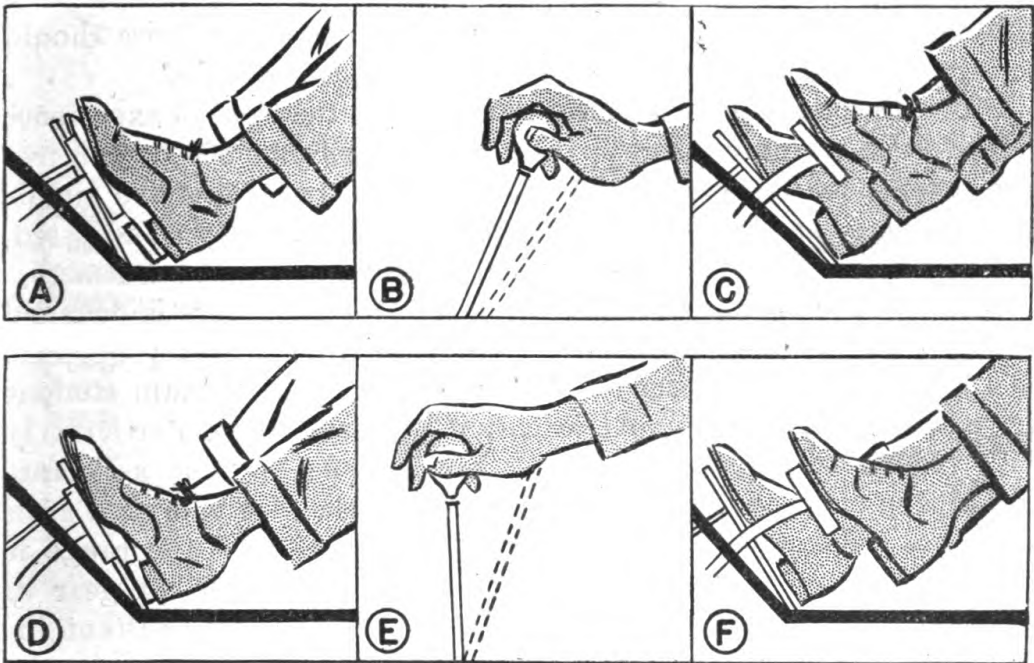

FIGURE 19.—How to double-clutch.
*c. Equipment and facilities.*—Sufficient number of vehicles to enable all students to get necessary amount of practice in available time. Driving field lay-out in accordance with figure 19. (Boundaries about which vehicles may maneuver should be set up by the use of stakes, lime, blocks 3 to 4 inches high, barrels, or other materials so that if struck by vehicle, they will cause no damage to it. In laying out driving range make sure that the lay-outs or rings are widely enough separated so that vehicles maneuvering on one driving range will not conflict with the movement of vehicles on other driving ranges. For dimensions of range, see par. 150.)
demonstrated thoroughly at this time. It may be necessary to review it from time to time by giving individual attention to those student drivers who experience difficulty in learning double clutching. (See fig. 19.)